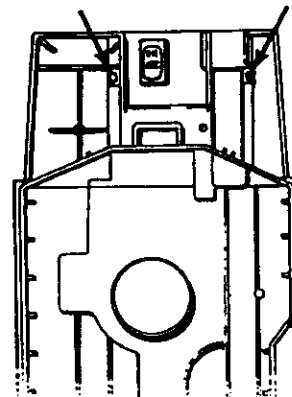

Fig. 15
1. Release two clips (Fig. 15)